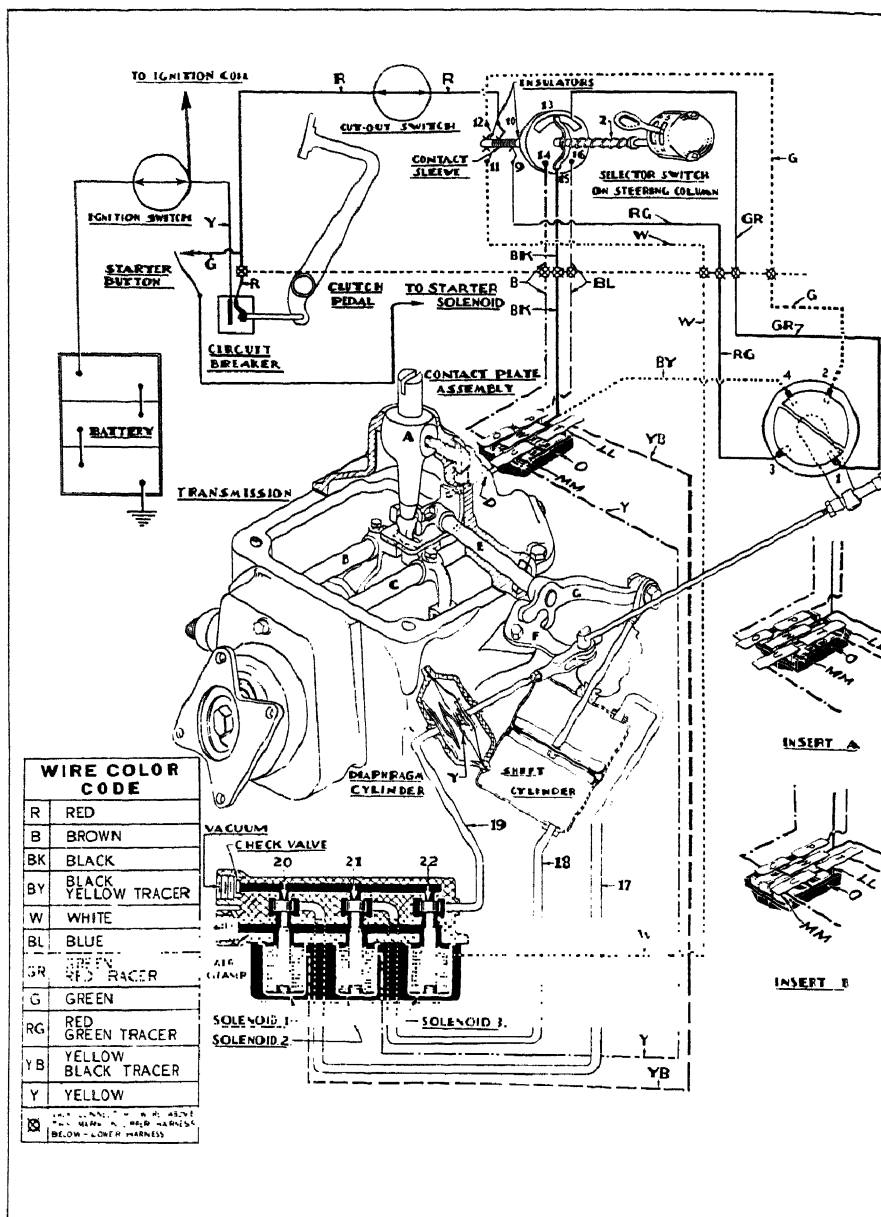

Fig. 6.—THE ELECTRIC HAND (1935-36 MODELS)—SELECTOR IN NEUTRAL POSITION
A contact plate on the earlier models opens the circuit after the gear change has been completed. This switch is controlled by a rod connected to the bottom of the changing lever (*A*) (Fig. 6).
The power cylinder has a vacuum-operated piston which provides the power for the forward and rearward movement for changing the gears. When the valve (21) (Fig. 6) in the vacuum line to the rear of the power cylinder is drawn down by its solenoid, opening the vacuum line, the piston moves backward. When the valve (20) in the vacuum line to the front of the power cylinder is drawn down by its solenoid, the piston moves forward. The movement of the piston is transmitted to the changing lever (*A*) through the control cross-shaft (*E*) and inner and outer levers.
The cross-change cylinder is of the diaphragm type. A spring (*F*) (Fig. 6) in the cylinder presses the diaphragm forward, which, through connecting linkage (*F*, *G*, *E*), holds the change lever (*A*) of the transmission engaged with the high- and second-speed change-rail fork (*B*)
(Fig. 6). When the valve (22) connected to the cross-change cylinder is drawn down by its solenoid, the diaphragm moves backward, pulling the bellerank (*F*) which moves the control shaft (*E*) to the right to engage the lower end of the change lever (*A*) with the low and reverse change-rail fork (*C*). This position is shown in Fig. 7.
Fig. 6 shows the selector in neutral, with the lever held to the right by the spring (*Z*). The gears are also in neutral, and the lower end of the change lever (*A*) is held to the right by the spring (*Y*) in the diaphragm cylinder, so that it is engaged in the notch of the high and intermediate change fork (*B*).
Fig. 7 shows the same condition as in Fig. 6, except the selector lever has been pushed to the left but is still in the neutral position. It will be noted that the circuit from (10) in the selector switch is now completed through the contact sleeve to both (11) and (12).
The circuit from (12) is to (2) and (1) on the interlock switch, to (13) to (15) on the selector switch to bar (*W*) on the contact plate. Now, following the same procedure as under Fig. 6 it will be seen that, if the gearbox were in low gear, the contact plate would be in the position of Insert A (same as for high gear), energising solenoid (2) and the change would be to neutral. If the gear were in reverse, the contact plate would be in the position of Insert B (same as for second gear), energising solenoid (1) and the shift would be to neutral.
Referring again to Fig. 6, it will be seen that if the selector lever is moved to the high-gear position (transmission in neutral), the circuit will be completed as before to (13) on the selector switch, then to (16) to (*P*) on the contact plate through the fingers (*LL*) to (*T*) to solenoid 1, and the change rail (*B*) will be moved forward until the contact plate reaches the position of Insert A when the fingers (*LL*) will move off bar (*P*), opening the circuit.